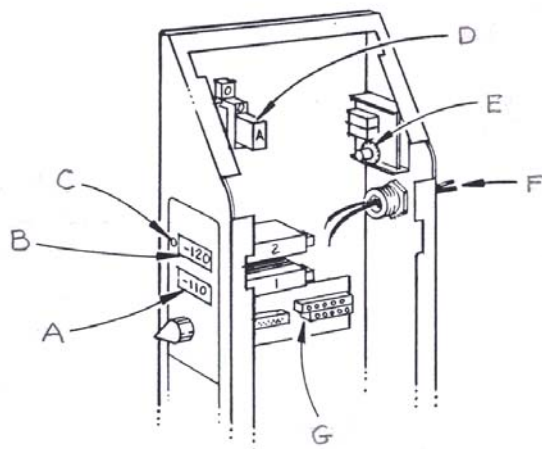

Figure 11-10: Temperature module options – parts identification for option 600212-03
- B. Option 600212-03: Second temperature meter & setpoint indication, see Figure 11-10.